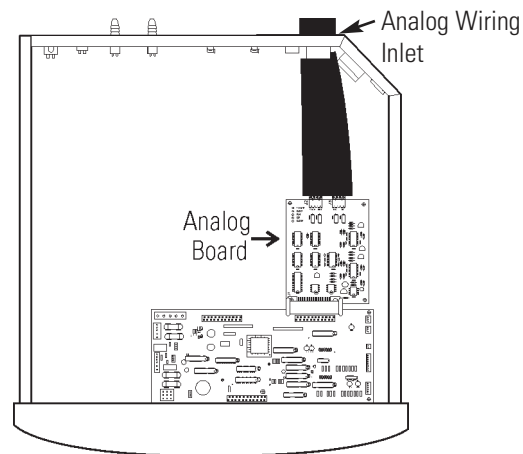

Figure 6-5. Analog Wiring Inlet
- Each system monitored (Temp, CO₂, O₂, RH) requires two conductors. Feed the wire through the analog wiring inlet on the back of the drawer. See Figure 6-5.